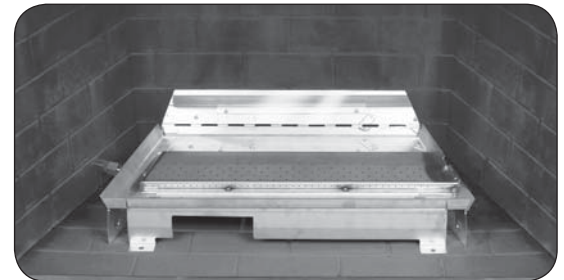

Fig. 9-2 Orientation
3. Place the burner system in the fireplace. Center the burner from left to right in the fireplace. (Reference Fig. 9-2 for orientation.)